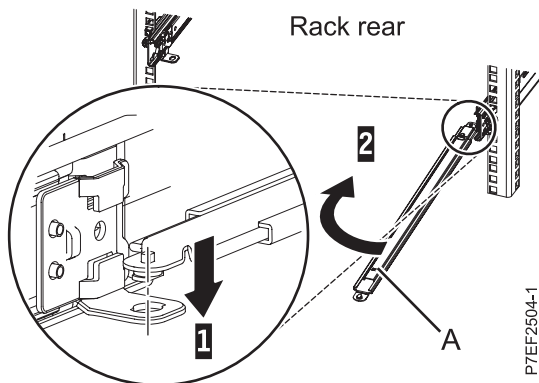

Figure 12. Support arm connection
1. The cable-management arm must be installed on the right side of the server, when you are facing the server from the rear, as shown in Figure 12. Connect one end of the support arm (A) to the right slide rail (1) so that you can swing the other end of the support arm toward the left side of the rack (2).